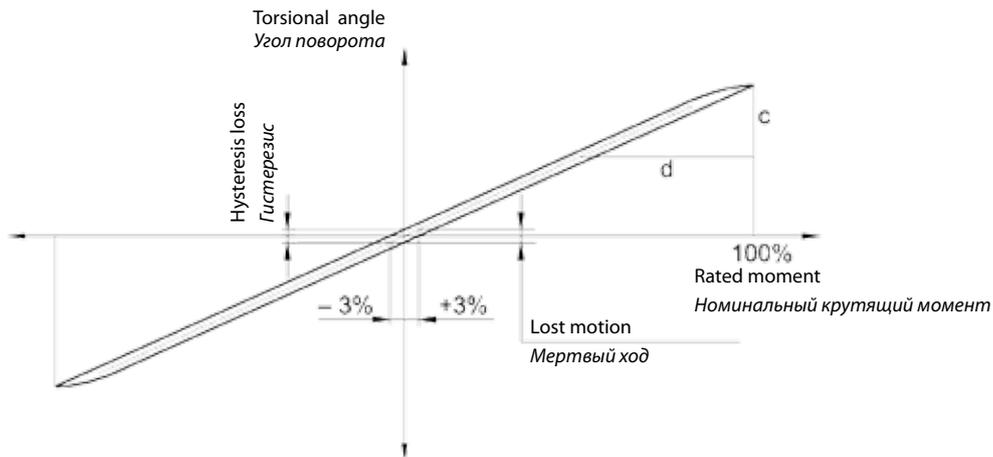

Fig. 3.7a: Hysteresis curve and the definition of stiffness T, E, H, M series
If the input shaft and the case are fixed and a torque is applied to the output flange, then the load diagram has a shape of a hysteresis curve (Fig. 3.7a).
Lost motion (LM) is a pitch angle of the output flange at $\pm 3\%$ nominal torque measured on the centerline of the hysteresis curve (Fig. 3.7a).